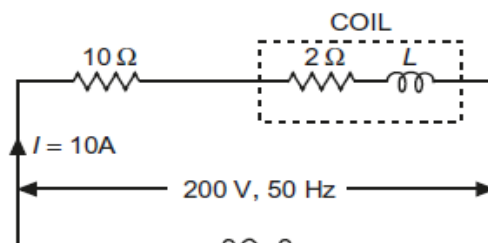

Figure: 2
- b) A non-inductive resistance of 10 Ω is connected in series with an inductive coil across 200 V, 50 Hz AC supply. The current drawn by the series combination is 10 A. The resistance of the coil is 2 Ω . Determine (i) inductance of the coil, and (ii) voltage across the coil. (figure 2). [8+7]